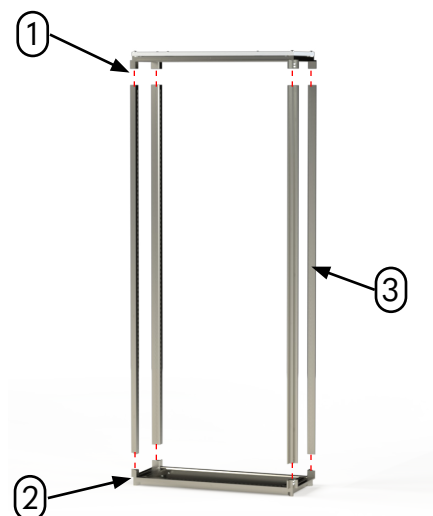

Figure 1
- Insert each frame rail (Item 3) into its corresponding slot in the base (Figure 1).